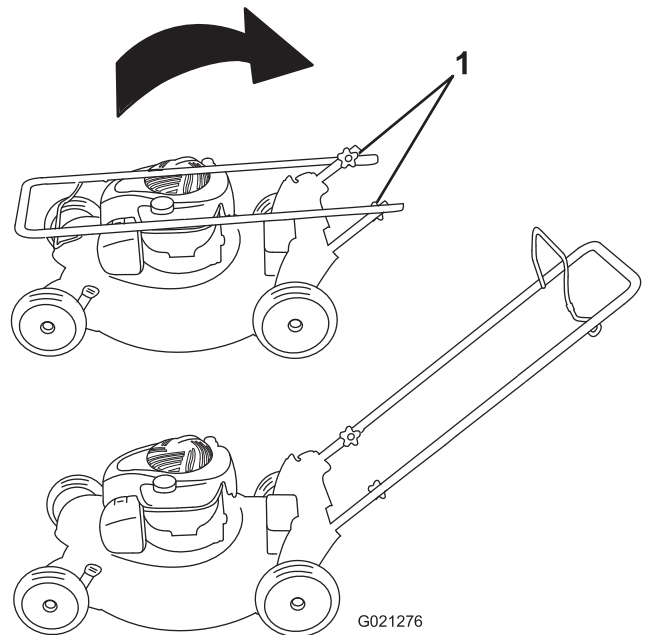

Figure 3
1. Remove the handle knobs from the machine housing (Figure 3).
1. Handle knob (2)
3. Install the handle knobs and tighten them firmly by hand (Figure 3).